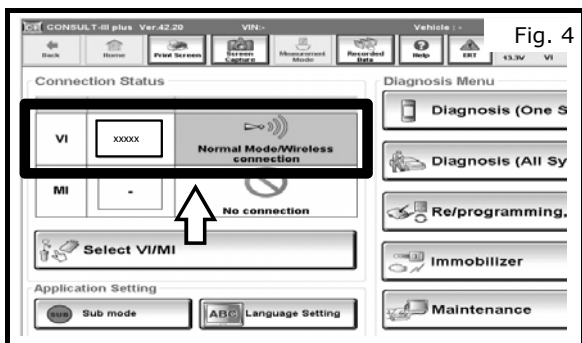

Fig. 4
- a) Start CONSULT III plus make sure VI is connected. VI serial number will appear in VI section and the VI status will change to "Normal Mode" (green color) as shown in Fig. 4.